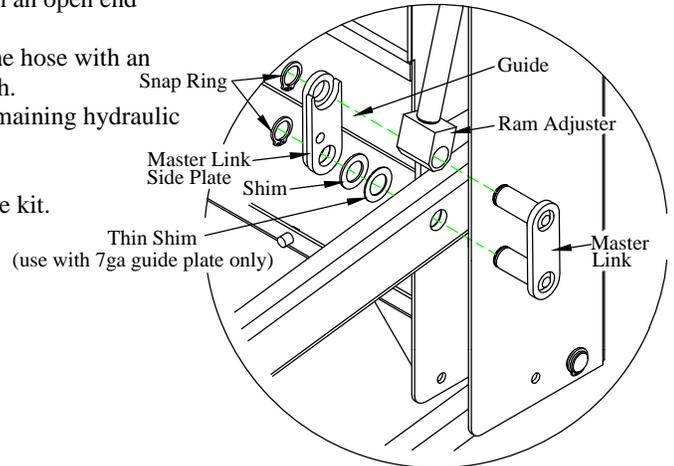

Figure 3: Master link assembly.
2. **REMOVE** the master link assembly (Figure 3).
9. **INSTALL** the master link assembly (Figure 3).